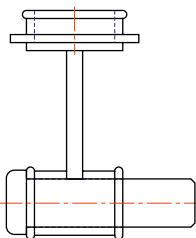

Fig. 10.17 The spindle in place in the original drawing
- The spindle drawing appears on screen ready to be *dragged* into position. Place it in position as indicated in **Fig. 10.17**.